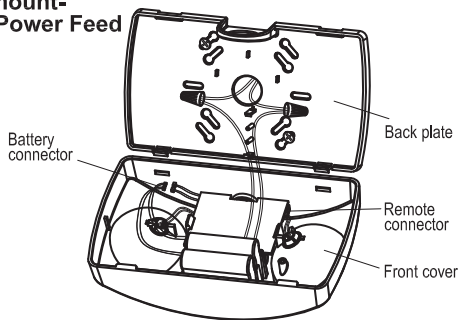

Fig 2
7. Connect battery connector. (see Fig 2).